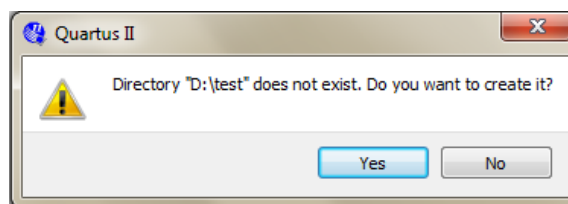

Figure 6. Create a new directory for the project
- Press **Next**, then you should see attention of the Figure 6.